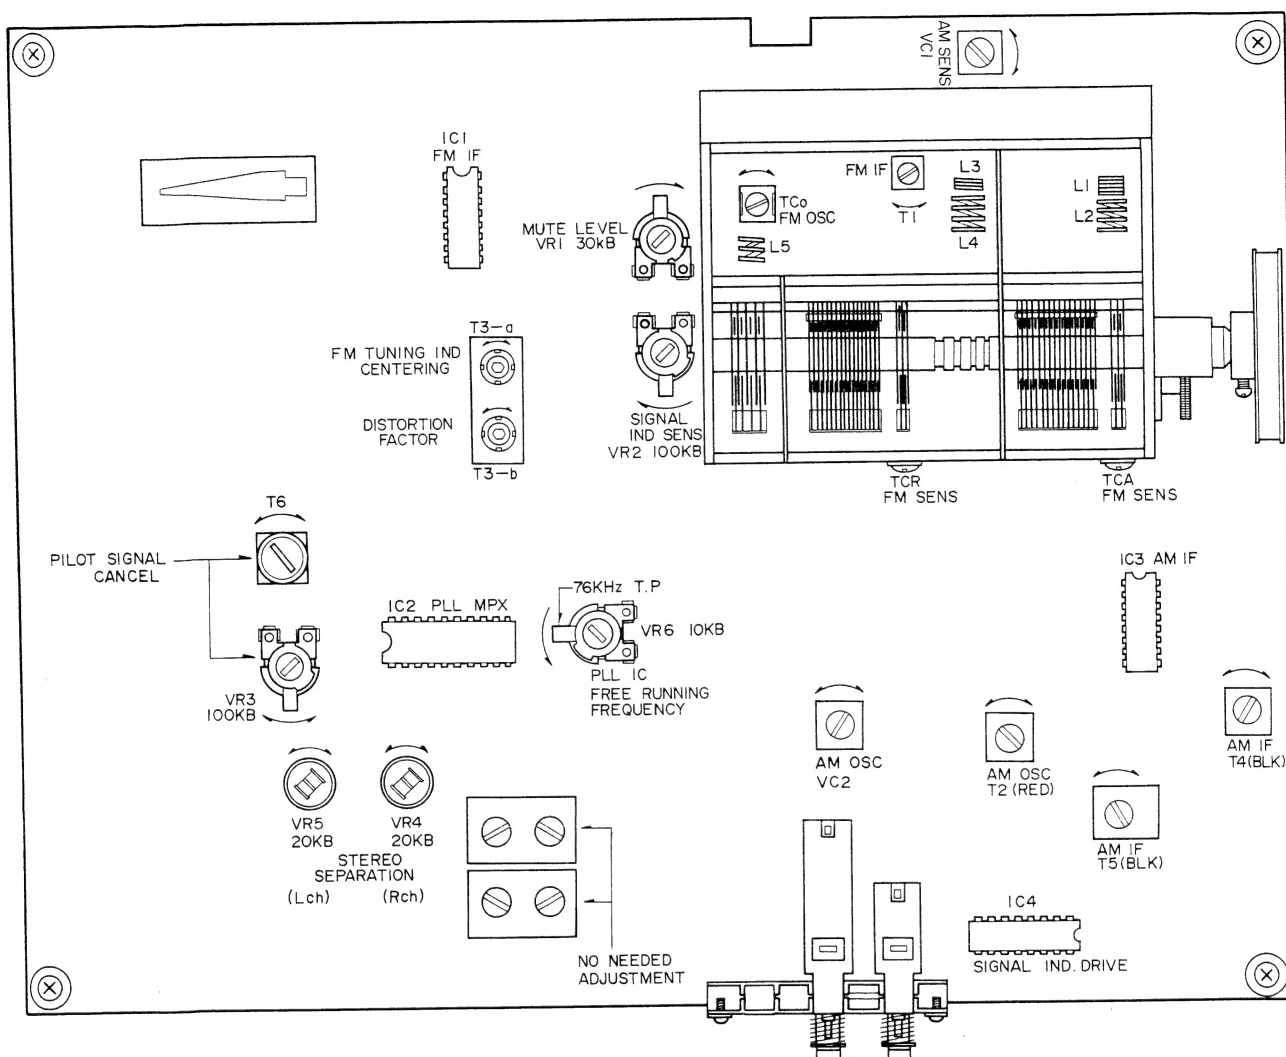

Fig. 5 Tuner P.C Board ATK-2001A
1. FM SECTION ADJUSTMENT (Refer to Figs. 5, 6 and 7)
2. AM SECTION ADJUSTMENT (Refer to Figs. 5, 6, 7 and 8)